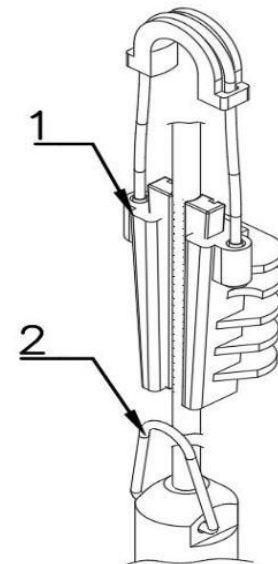

Figure 1. Mounting brackets for probes
The depth probes are installed in places where the liquid level is measured in wells, tanks, boreholes, etc. The probe is immersed in the measured medium. A special cable extends above the medium level and can be connected directly to the device cooperating with the probe or to the junction box. Probe can be hung on the power cable, e.g. by using Aplisens SG cable hanger (item 1 in Fig. 1). In the event of frequent removal of the probe or when there is a risk of catching on protruding elements during pulling up, it is recommended to hang the probe on a steel cord using the carrying eye (item 2 in Figure 1. - does not apply to SGE-16 probes). Probe with an additional Teflon shielding on the cable should be hung on a carrying cable or on an internal cable (do not grab the Teflon shield). Hang the probe in Ex version with the grounding cord only by the lifting eye on an additional supporting wire.